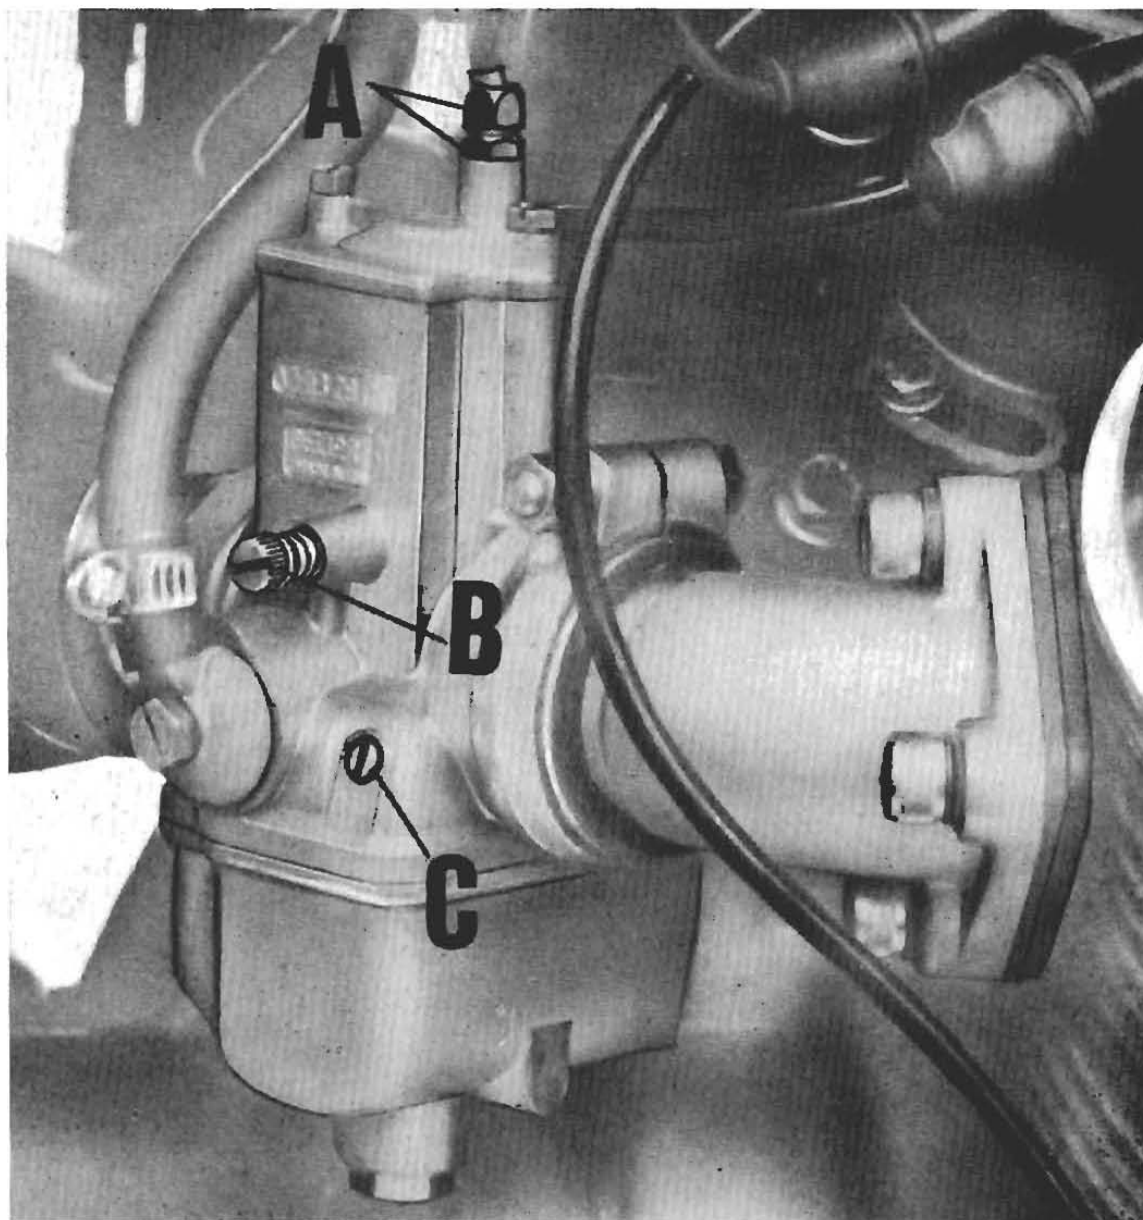

Fig. 17
- 2) With the filter box and the rubber inlet manifold removed, check that both gas valves open at the same time. This is done by turning the throttle grip and at the same time feeling with your fingers on the carburetor slides if these open simultaneously by the same amount. Should one valve open before the other, correct by setting screw A (See fig. 17) in the position where by turning the throttle both valves open simultaneously.
- 3) Adjust the idling speed by acting on screw C in fig. 17. Screwing this in reduces the fuel flow and viceversa increases it. To adjust, tighten the screw and then undo it $1\frac{1}{2}$ - 2 turns for the left cylinder carburetor and 2 - $2\frac{1}{2}$ turns for the right cy-
linder carburetor. With the engine revolving at about 1000-1200 r.p.m., disconnect the plug lead of any one of the cylinders and lightly turn screw C in fig. 17 of the apposite carburetor on to the position which will give the best idling speed, i.e. until the engine revs increase slightly. The same operation should be repeated
- 4) Disconnect the R/H cylinder plug lead, start the engine, and ensure that it stops after firing 4 or 5 strokes. If it dies out earlier or later, it is necessary to adjust idling screw B in fig. 17 to the point where the engine will stop after firing 4 or 5 times.
If the R/H cylinder is normal, the engine should stop after firing 4 or 5 times. If not, screw B in fig. 17 should be similarly adjusted to the position where it does so. The L/H cylinder plug lead is then reconnected.